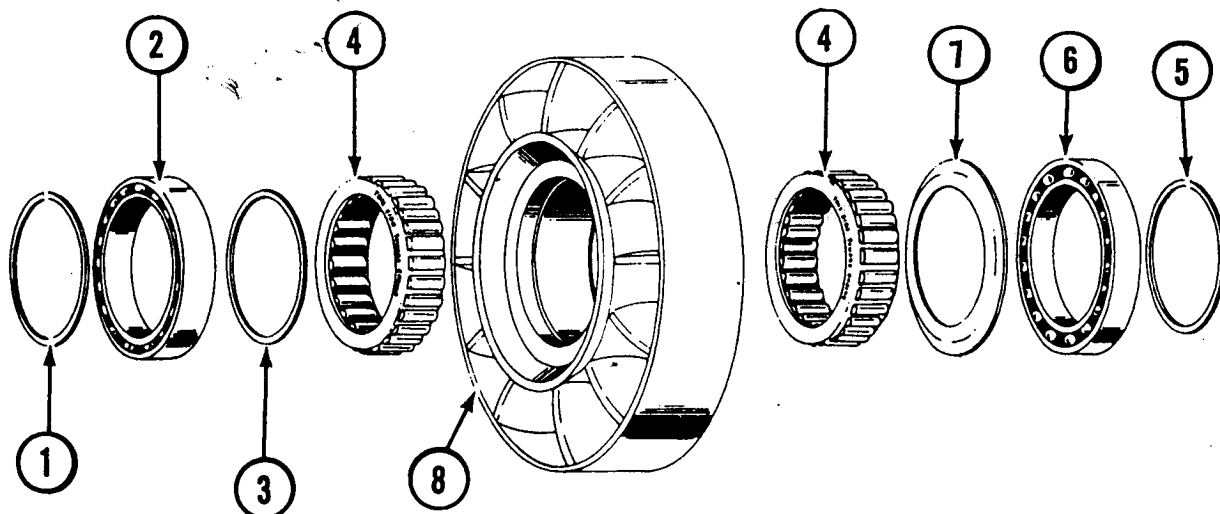

FIGURE 23. EXPLODED VIEW OF REACTION GROUP
Refer to Figure 23 and disassemble the reactor assembly in the numerical order as shown. Item (1) snap ring was previously removed from reactor sleeve.